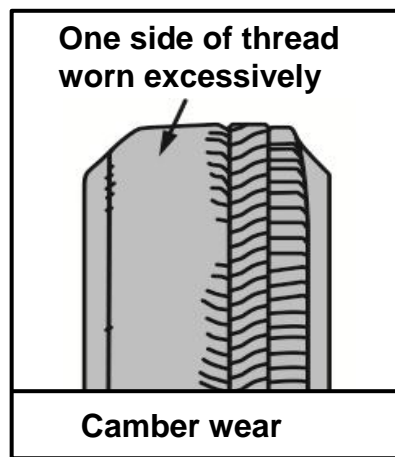

FIGURE 10.2
10.2 FIGURE 10.2 below shows camber wear on a tyre. Answer the questions that follow.